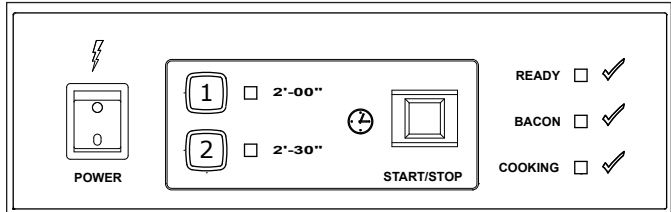

Figure 1. Operating Controls
1. Turn the power on (Figure 1).